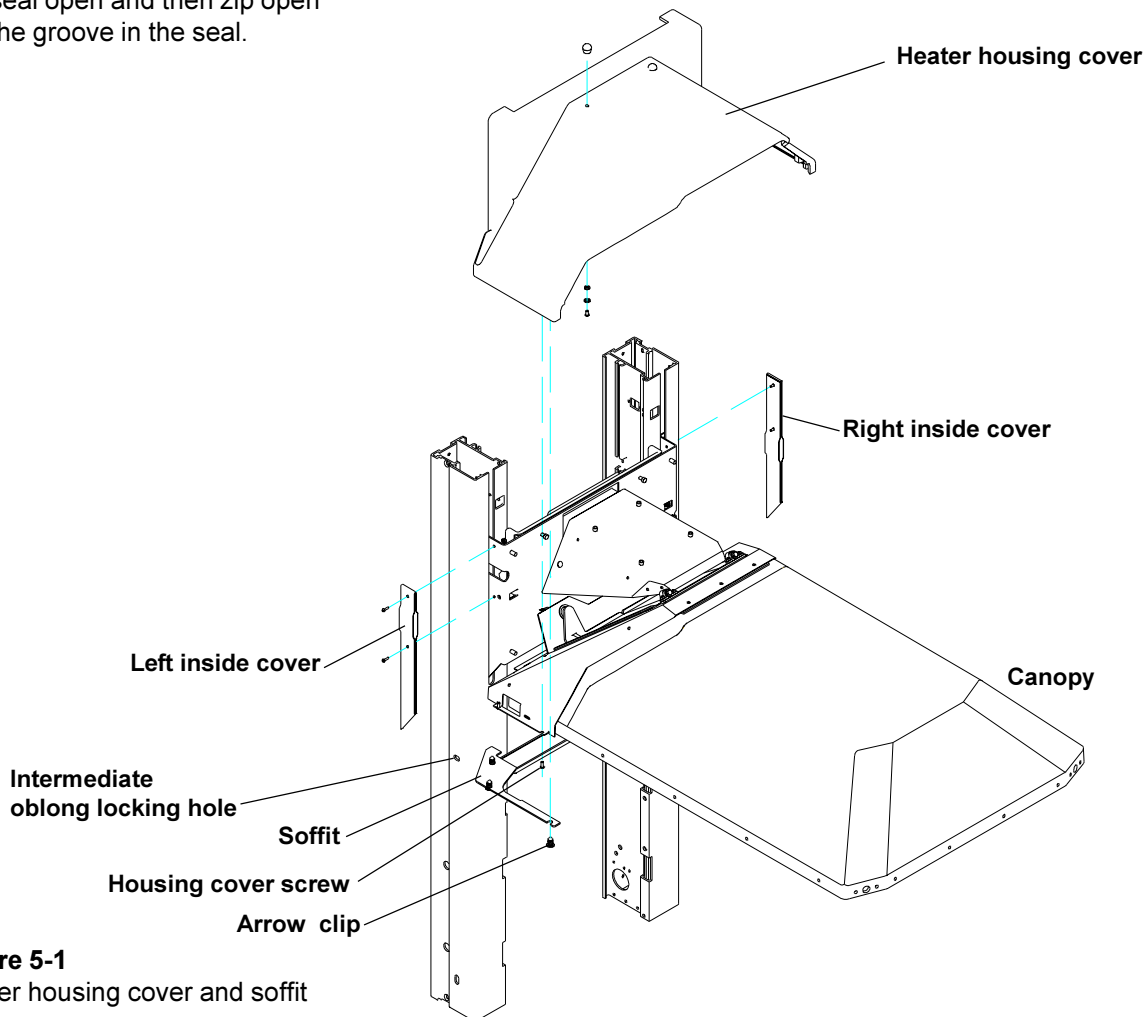

Figure 5-1
5.1 Canopy Removal for Replacement (Figures 5-1, 5-2 and 5-3)
5.21 Removing the right upright (motor side) (Figures 5-1, 5-4, 5-5, 5-6, 5-7 and 5-14)
5.22 Removing the left upright (Figures 5-1 and 5-5)
2. Using a small straight blade screwdriver, remove the 6 arrow clips that secure the soffit beneath the rear of the canopy (See Fig.5-1) and remove the soffit.